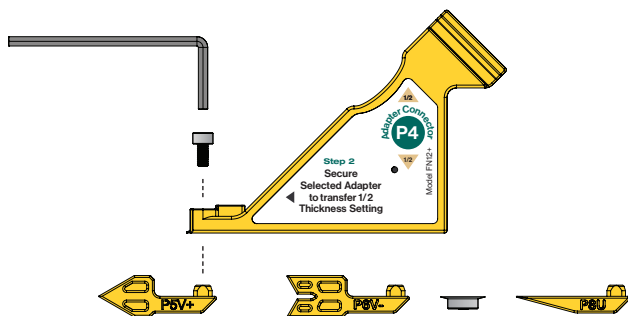

Fig 5d - Attach tips to P4.
- E.5.** Use the included hex key to attach specialty tips to the end of P4 as needed [Fig 5d].